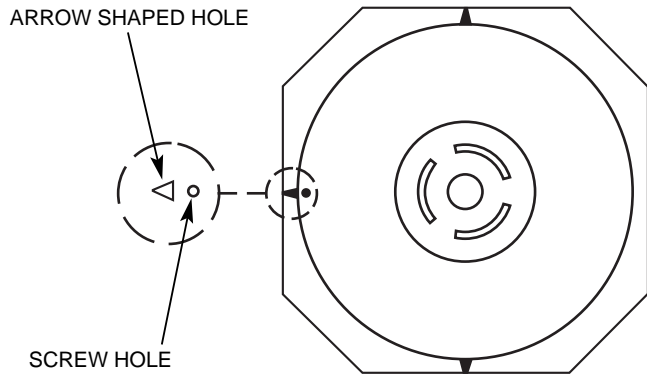

Figure 9. Fixture Fitter
B. The (8) sides of the fitter must be aligned with the matching (8) sides of the fan trim. To orient the fitter locate the (3) arrow shaped holes near the outer edges of the fitter. See Figure 9.
Select the arrow which has a screw hole directly behind it, and align this arrow with the arrow in the trim. See Figure 9.